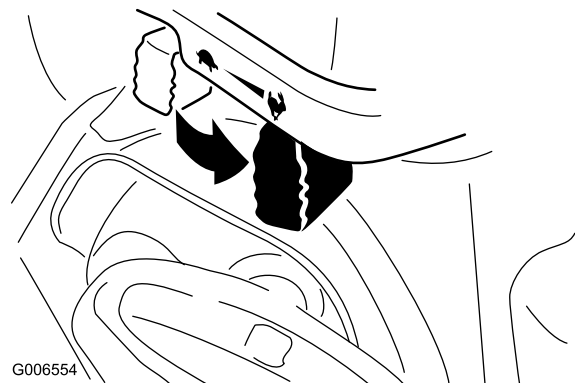

Figure 24
6. Move the throttle to the Fast position (Figure 24).